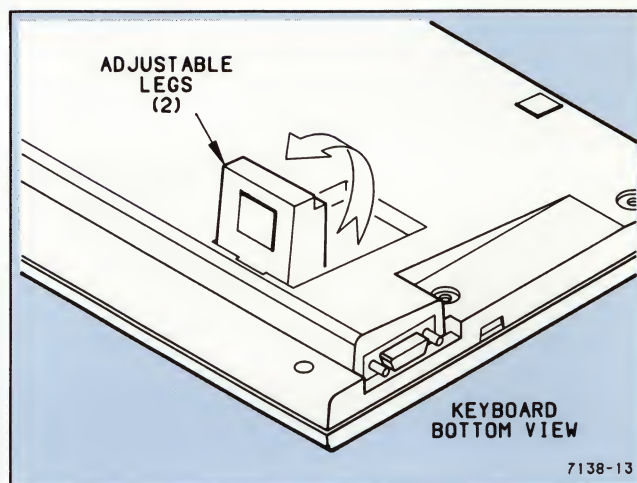

Figure 2-17. Keyboard Angle Adjustment.
- You can also adjust the angle of the keyboard by extending the legs located on the bottom of the keyboard (see Figure 2-17).